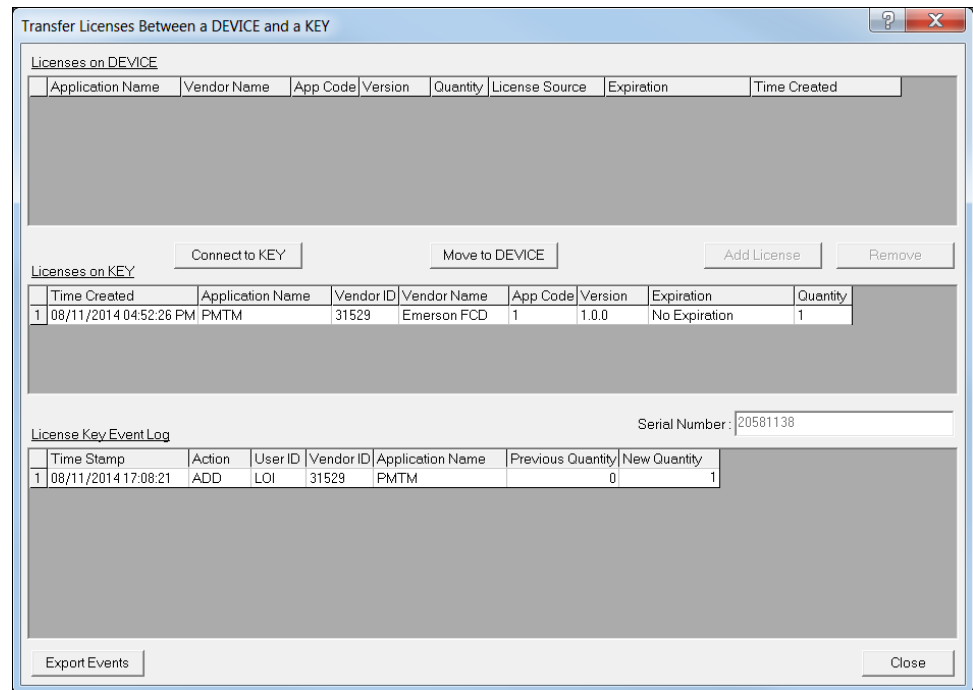

Figure 2-2. Transfer Licenses Between a Device and a Key
3. Select the key-based license you want to transfer to the FB107 (*PMTM*, as shown in *Figure 2-2*).